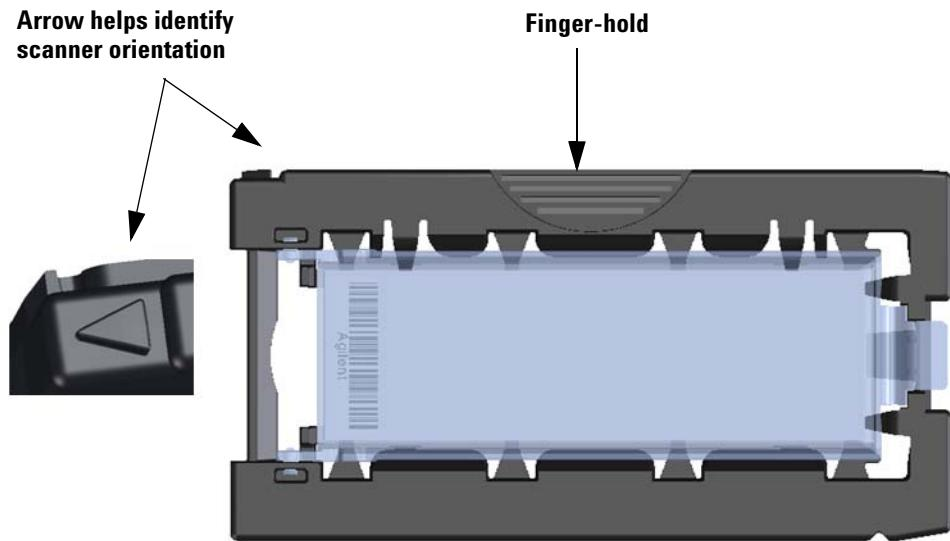

Figure 43 Slide holder helps you to insert slides correctly
- 2 Pick up the slide holder using the finger hold. The arrow on top of the slide holder points to the left when you pick up the slide holder correctly. See Figure 43.